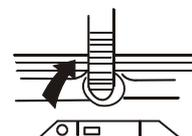

Figure 4
- Dismantle the drain hose fixing clamp. Take out the drain hose from the fixing groove. Extend it from the rear side as per the direction of the arrow. (When the drain hose is extended from the rear side, it can be hung on the point for drain hose at the two sides of the cabinet.) (See to Figure 4).
Select the washing time according to the laundries. (Figure 4)